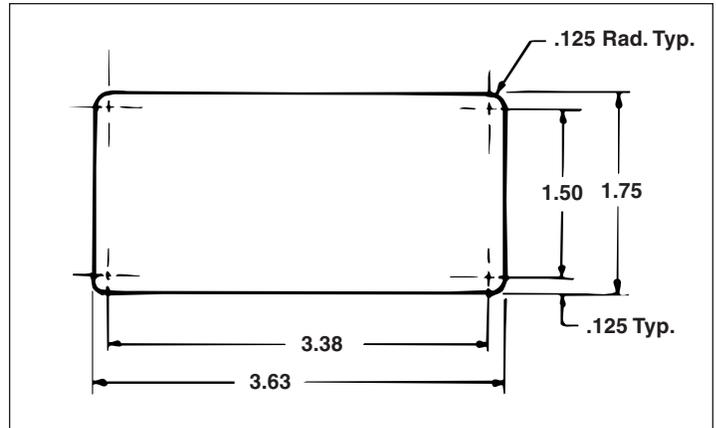

Figure 8, Panel Cutout Dimensions
5. System panel cutout dimensions are shown in Figure 8.